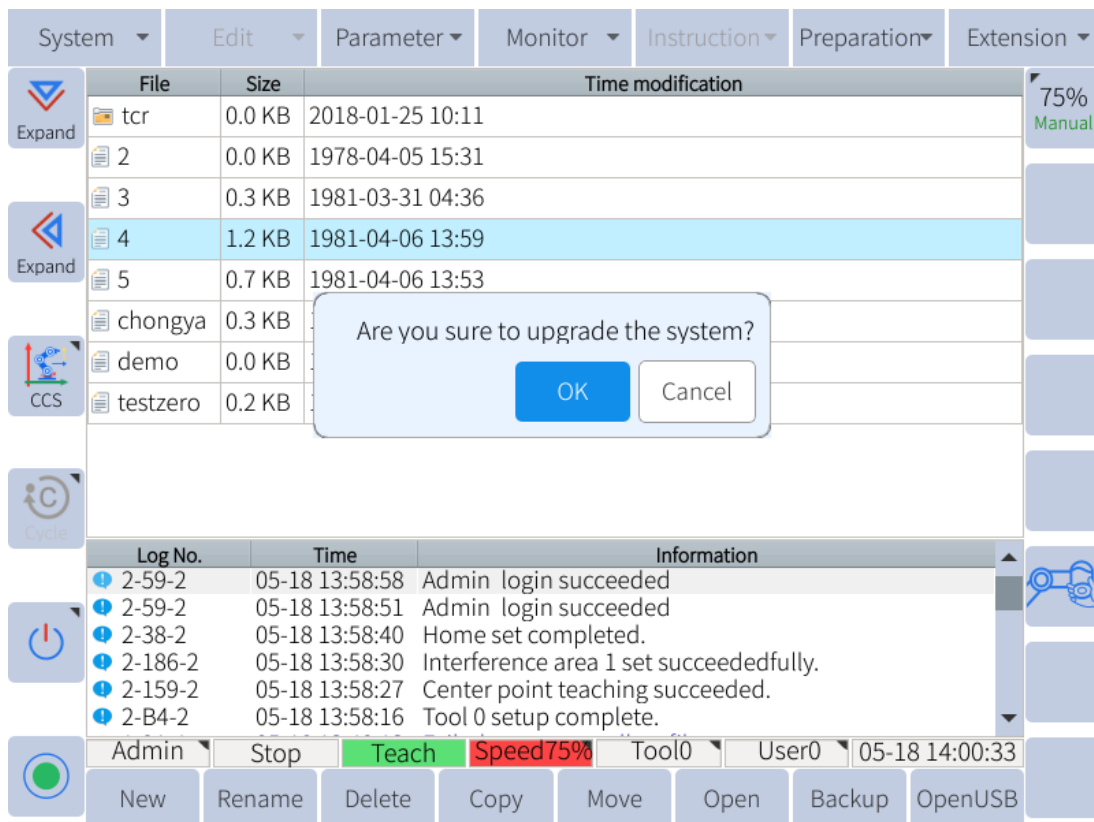

Figure 13-1 : System Upgrade
4. Go to **System -> System Upgrade** then press “OK” button and wait several minutes. The system will check the firmware and be upgraded automatically. It will restart the system after successful upgrade, as shown in **Figure 13-1** .